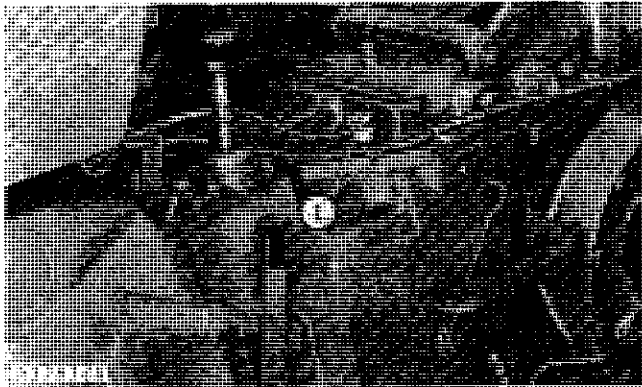

Fig. 4-Left-Hand Separation Procedures
1. Disconnect wiring harness from start-safety switch and light switch (Fig. 4).